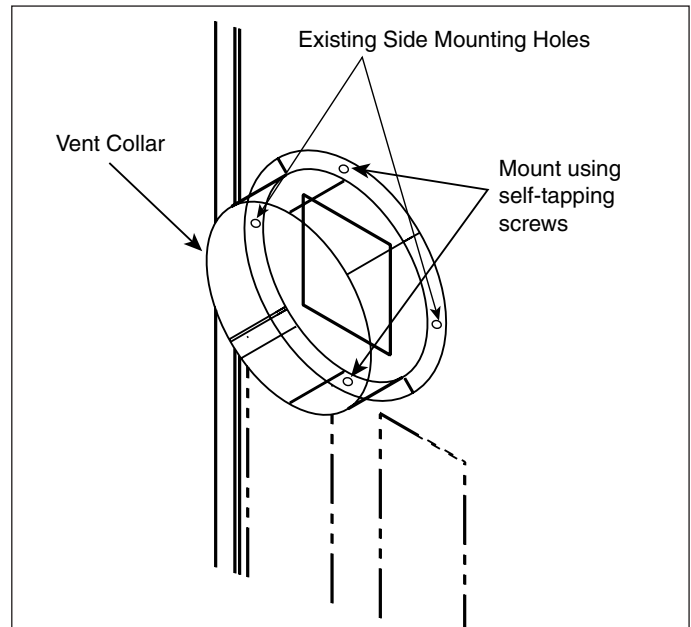

Figure 4.1
5. Position the 90° elbow on the exhaust collar in a vertical discharge position (See Figure 4.1). Drill three 1/8" diameter bite holes through the elbow and into the exhaust collar. Equally space the holes around the circumference of the elbow. Using three #10 x 1/42" sheet metal screws, securely fasten the elbow to the exhaust collar.
6. Attach the strap clamp to the access door (See Figure 4.1) with two #10 x 1/42" self-tapping sheet metal screws. The strap clamp should be located on the access door 10" above the centerline of the discharge opening. Once the strap clamp is attached to the door, the clamp should be loosened in order to allow the vent pipe to slide into position.
8. Slide the flue pipe through the strap clamp opening and over the elbow (See Figure 4.1). Drill three 1/8" diameter bite holes through the vent pipe and into the elbow. Equally space the holes around the circumference of the vent pipe. Using three #10 x 1/42" sheet metal screws, securely fasten the vent pipe to the elbow.